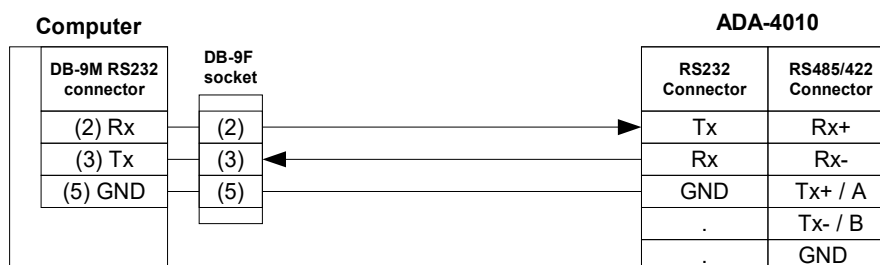

Fig. 3. ADA-4010 connection to PC by the use of cable
- to RS232 computer's port, should be use a cable according to the fig.3.